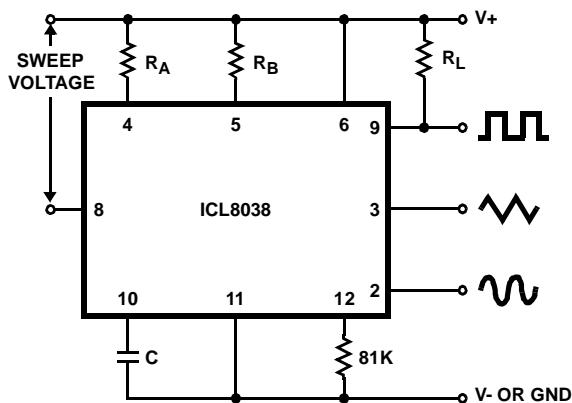

FIGURE 5B. CONNECTIONS FOR FREQUENCY SWEEP FIGURE 5.
7. The hi and lo frequencies can be obtained by connecting pin 8 to pin 7 (f_{HI}) and then connecting pin 8 to pin 6 (f_{LO}). Otherwise apply Sweep Voltage at pin 8 ($\frac{2}{3} V_{SUPPLY} + 2V \leq V_{SWEEP} \leq V_{SUPPLY}$ where V_{SUPPLY} is the total supply voltage. In Figure 5B, pin 8 should vary between 5.3V and 10V with respect to ground.
For larger FM deviations or for frequency sweeping, the modulating signal is applied between the positive supply voltage and pin 8 (Figure 5B). In this way the entire bias for the current sources is created by the modulating signal, and a very large (e.g. 1000:1) sweep range is created ($f = \text{Minimum at } V_{\text{SWEEP}} = 0, \text{ i.e., Pin 8} = V_+$). Care must be taken, however, to regulate the supply voltage; in this configuration the charge current is no longer a function of the supply voltage (yet the trigger thresholds still are) and thus the frequency becomes dependent on the supply voltage. The potential on Pin 8 may be swept down from V_+ by $(1/3 V_{\text{SUPPLY}} - 2V)$.